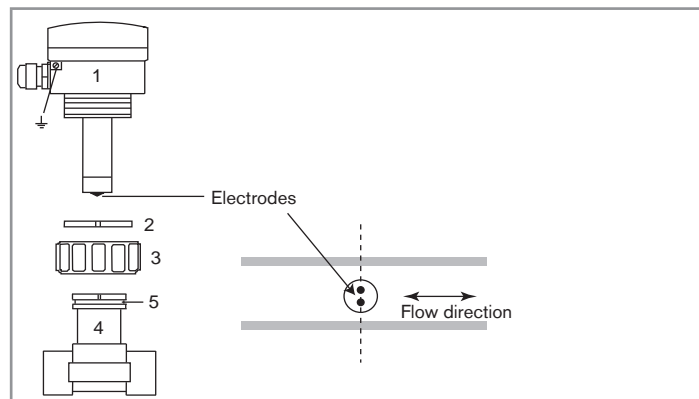

Fig. 12: Installation into the pipe of the flowmeter with a G2" nut
- Insert the nut (see mark 3, Fig. 12) on the fitting.
- Insert the snap ring (mark 2, Fig. 12) into the groove (mark 5, Fig. 12).
- Position the cable glands parallel to the pipe and insert the device (mark 1, Fig. 12) into the fitting.
- Tighten the nut (mark 3, Fig. 12) by hand on the device.